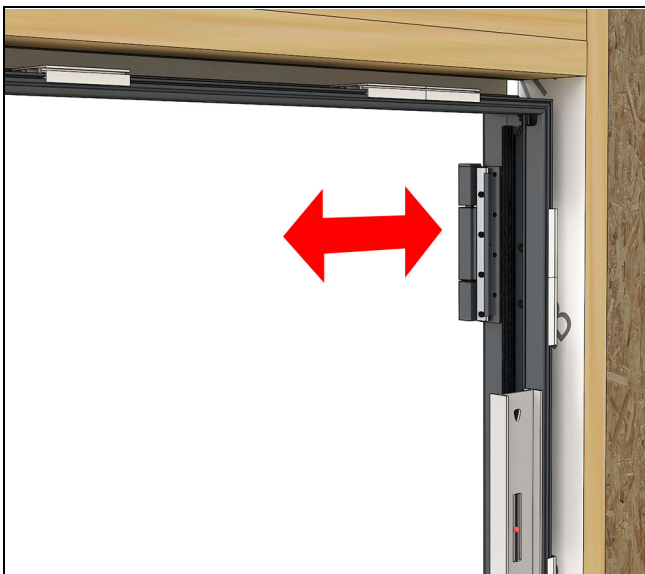
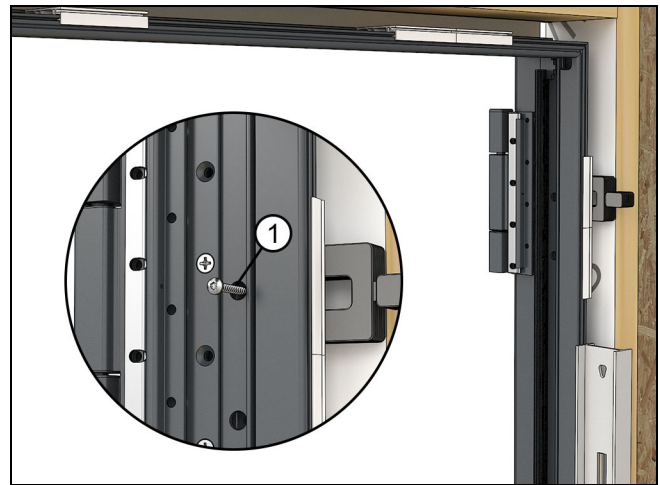

Figure 39 Plumb side to side
Figure 40 Plumb interior to exterior, shim and fasten
6. Plumb one side jamb (side to side and interior to exterior). Tack the top corner by driving an installation screw through one of the pre-drilled holes in the jamb. Shim to maintain a plumb jamb. See Figure 39 and Figure 40.